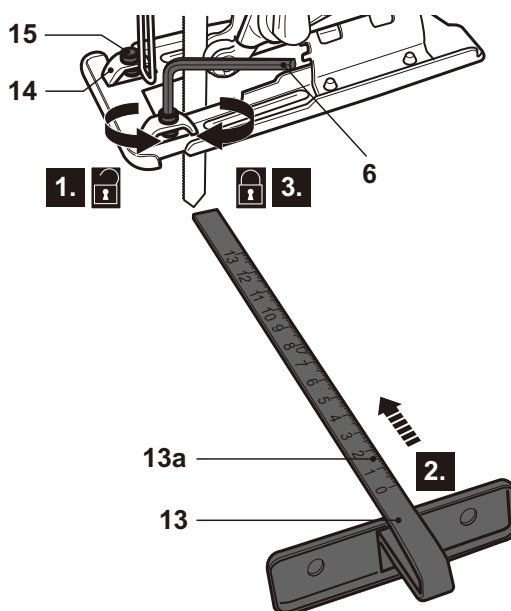

Fig. 2
- > Loosen the 2 hex bolts (15) with the hex key (6) (Fig. 2, step 1).
- > Align the parallel guide (13) with the brackets (14) and insert it (13) through them (Fig. 2, step 2).
- > Tighten the hex bolts (15) to secure the parallel guide (13) in position (Fig. 2, step 3).